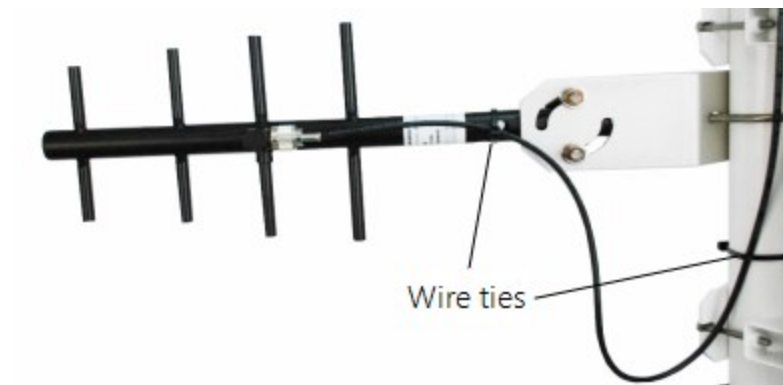

FIGURE 6-34. Wire tie antenna cable to Yagi antenna and to pole
- h. Take one black wire tie and strap the antenna cable to the antenna (FIGURE 6-34 (p. 49)). Leave a little slack on the cable between the wire tie and the antenna connector so as not to stress the connector/cable connection.
- i. Make sure a loop of antenna cable is directly under the Yagi antenna. This will act as a drip loop and allow moisture to run off the antenna and cable (FIGURE 6-34 (p. 49)).